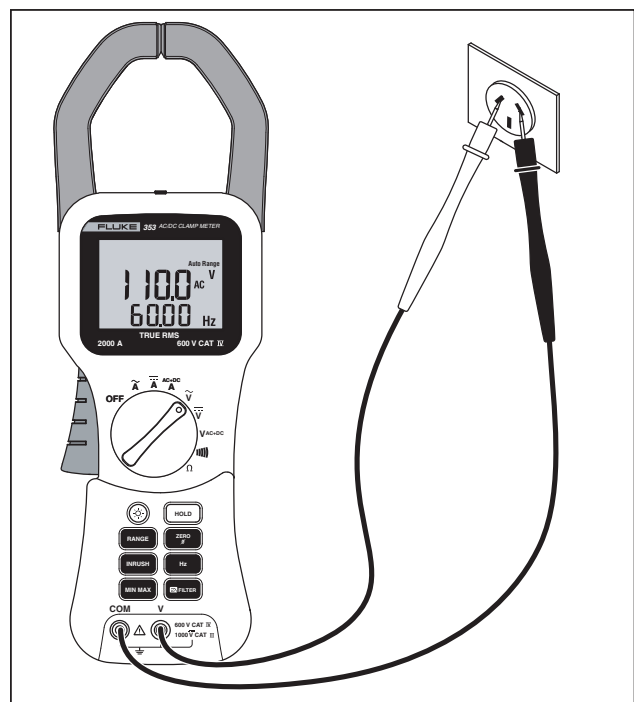

Figure 5. AC Voltage Measurement
5. When measuring ac voltage, press **[Hz]** to view the frequency reading on the frequency display. See Figures 5 and 6.